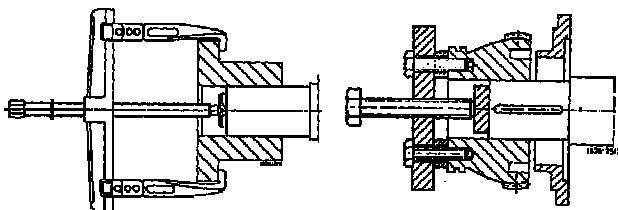

Figure 27 - Extraction of coupling hub
1. Proceed as per above items 4, 5, 6, 7, 8, 9, 10, 11 and 12.
2. Remove half of coupling hub using suitable device (fig. 27).